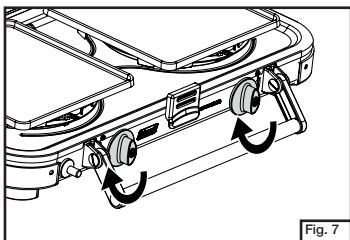

Fig. 7
- Close both burner valves firmly. (Fig. 7)